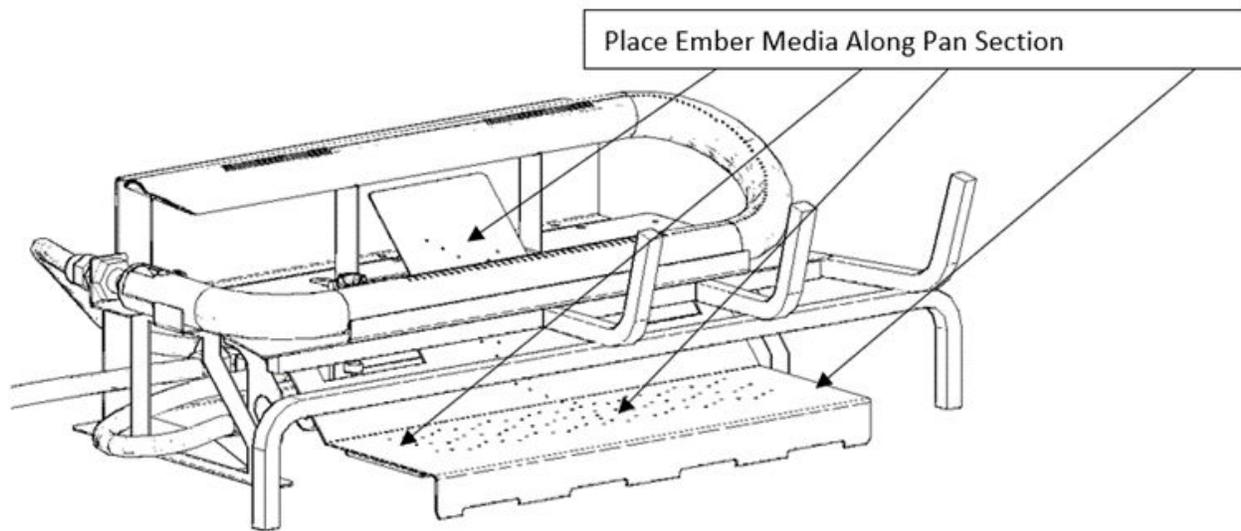

FIGURE 15
2. Place embers along the pan section of the burner and spread evenly. **Figure 15**